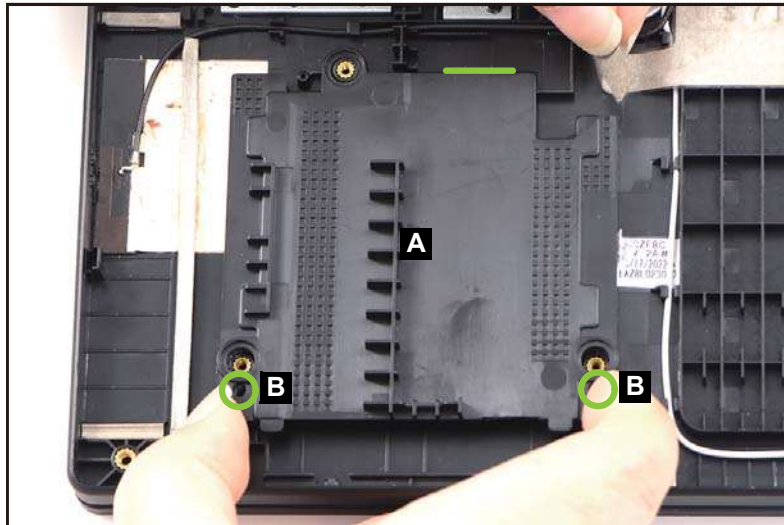

Figure 3-118. Replacing the Smart Card Reader Holder
1. Align and slide the upper side of the smart card reader holder (A) into the upper tab slot (highlighted by the green line) on the top assembly. Then place the holder onto its compartment until it is fully seated and secured to the guide pins (B) (Figure 3-118).